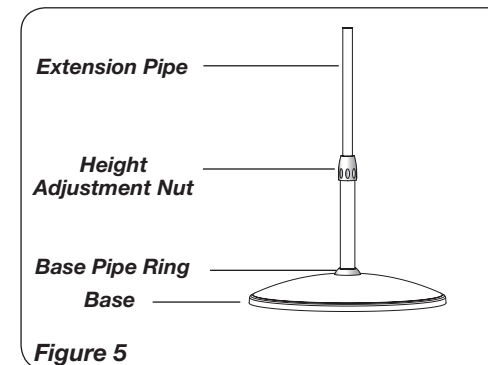

Figure 5
1. Place base pipe ring over hole in base, with a twisting motion, insert the end of the large diameter pipe into hole in **Base**. (**Figure 5**) Turning pipe while pushing will assure pipe is fully seated in **Base**.